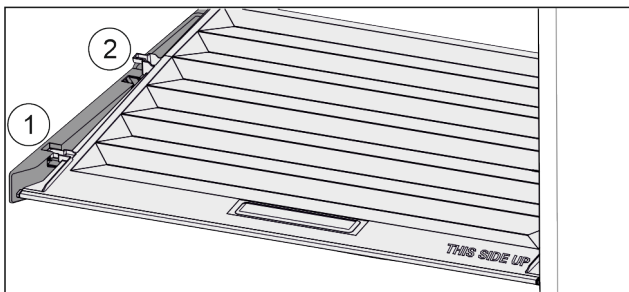

Fig. 81
- ▶ Pull the lid up at the front to the opening in the retaining parts *Fig. 81 (1)*.
- ▶ Lift from the back and pull it up and out *Fig. 81 (2)*.